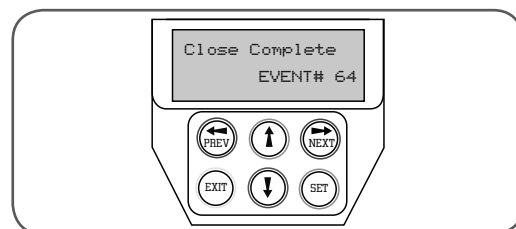

fig 62
DCB-05 keeps a record of the last 64 events that have taken place. The events include the type of drive cycles executed, obstruction detection, various faults, power failures etc. When this tool is selected, the screen displays the last event that occurred (**Fig. 62**). Press NEXT or PREV to view each event. The "EVENT#" field shows the sequence of the events, with (1) being the first and (64) being the last. The example shows that the last event was a close cycle which succeeded in closing the gate. When finished viewing the events, press EXIT.